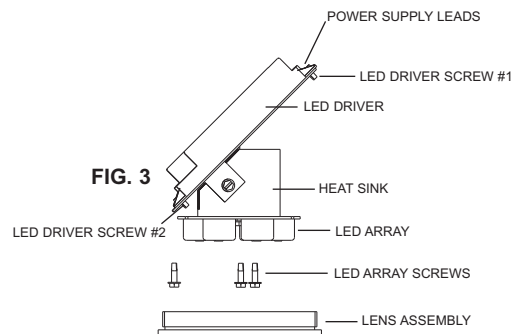

FIG. 3
4. Pull the LED array assembly from the fixture (Fig. 3). Note: Shift LED array assembly slightly away from the wall and then pull away from housing.
2. Remove the lens assembly by rotating the end cap counter clockwise (Fig. 3).
6. Remove driver screw #1 (keep for later assembly), and loosen driver screw #2 (Fig. 3).
7. Replace the driver, secure with screw #1, and tighten screw #2 (Fig. 3).
9. Slide the LED array assembly back inside the fixture (Fig. 3).*